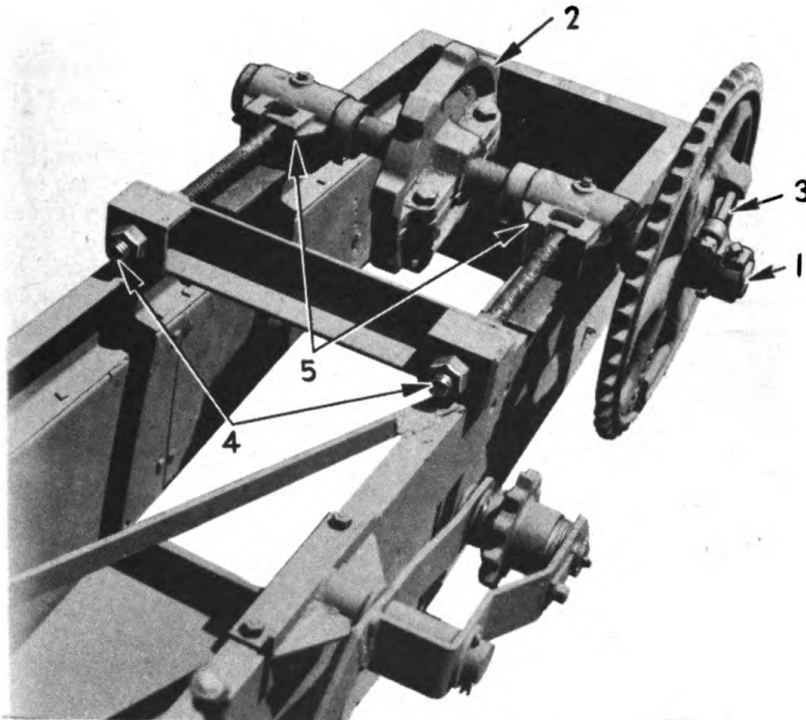

FIG. 9 - CLOSE-UP OF HEAD END OF COLD ELEVATOR.
The cold elevator headshaft (1) Fig. 9, drives the bucket line. The headshaft assembly consists of the shaft, bucket line sprocket, drive sprocket, breaker bolt and take-up bearings.